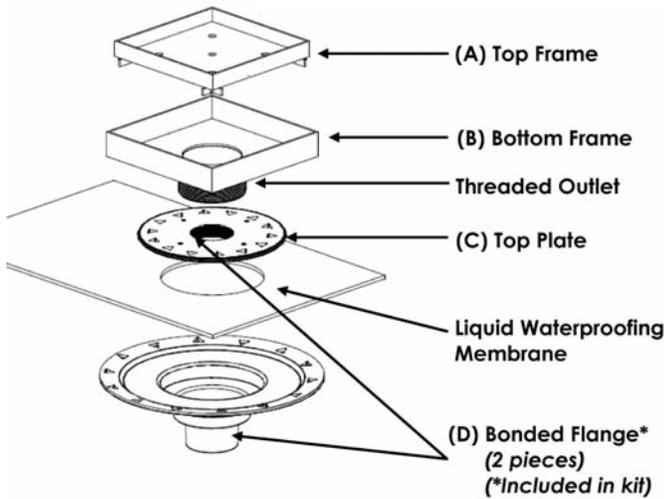
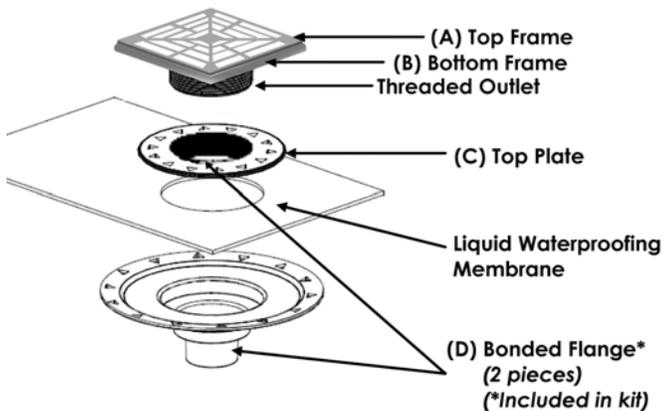

Fig. 1
Fig. 2
Before placing mortar, apply a slurry bond coat made from 254 Platinum. While the slurry bond coat is wet, spread 3701 Fortified Mortar and compact well. Mortar beds shall be 3/4" minimum to 2" (50 mm) maximum. Mortar beds in excess of 2" (50 mm) thick shall be detailed by the architect per TCNA F112. Prior to installing the HYDRO BAN® Bonding Flange Drain make sure the backer board has been installed on the walls following the manufacturer's recommendations. The HYDRO BAN Bonding Flange Drain should be installed per TCNA Method B422. Before installing the HYDRO BAN Bonding Flange Drains make sure the opening in the floor where the waste line connection is made is 4-1/4" (108 mm) in diameter. The lip of the HYDRO BAN Bonding Flange Drain should sit approximately 1-1/4" (32 mm) above the substrate. Dry fit the HYDRO BAN Bonding Flange Drain through the hole and to the waste line below. When connecting to a 2" (50 mm) waste line which is already in place the top of the waste line should be 1-3/4" (44 mm) below the surface of the substrate. Make sure that the HYDRO BAN Bonding Flange Drain is PVC when connecting to a PVC waste line or ABS when connecting to an ABS waste line. Cement the HYDRO BAN Bonding Flange Drain in place using PVC solvent and cement for PVC and ABS solvent and Cement for ABS HYDRO BAN Bonding Flange Drain and waste line connections. Make sure that the HYDRO BAN Bonding Flange is level before the PVC or ABS cement has cured. DO NOT MIX materials, this will cause a failure in the pipe weld. When installed over EGP the bonding flange (D) Fig 1 and 2 can be screwed to the substrate using stainless steel or zinc coated 3" (76 mm) drywall screws. There are four countersunk holes around the perimeter of the bonding flange (D) for this purpose. The installation is now ready to accept the mortar bed.
### Installing HYDRO BAN and Tile (Fig. 1 and Fig. 2)
3. Tile walls and floors; when thin-set and tile are ready to be installed around the HYDRO BAN Bonding Flange Drain comb thin-set onto bonding flange (D) and set top plate (C) onto the bonding flange. Thin-set should ooze through the triangle voids in the top plate (C). Scrape any excess thin-set from the top plate (C) using a trowel. As you tile closer to the top plate insert the threaded outlet of the top and bottom frame (A and B) into the top plate (C). Adjust the top and bottom frame by screwing in the threaded outlet to the top plate (C) to allow for height adjustment (fig. 2). Thin-set over the top plate (C) and install tile.
4. If using the tile-in grate with the HYDRO BAN Bonding Flange Drain, remove top frame (A) and prime surface with two coats of HYDRO BAN prior to installing tile within the frame using a polymer fortified thin-set. Make sure that the stainless steel top frame (A) is free of grease, dirt or finger prints prior to applying the HYDRO BAN®.